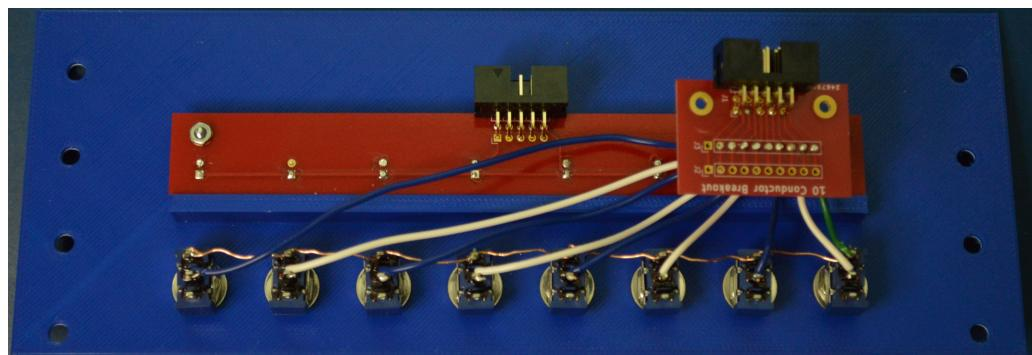

Figure 2.14: Control Panel Switches Showing Wiring
- Install the wiring for the switches as shown in Figure 2.14. The wiring is shown going to a breakout board. This allows a ribbon cable to be used to connect to the I/O board. Alternating blue and white wires are used to make it a little easier to follow. The ground wire from the breakout board is green on the far right.